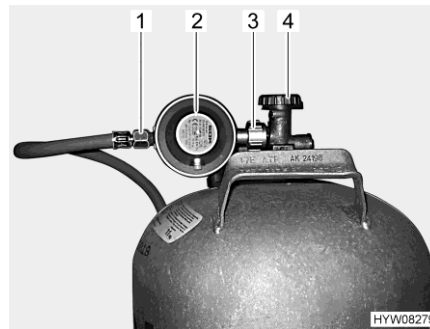

Fig. 138 Gas bottle connection
- Close the regulator tap (Fig. 138,4) on the gas bottle. Pay attention to the direction of the arrow.
- Hold the gas pressure regulator (Fig. 138,2) and open the knurled nut (Fig. 138,3) (normally a left-hand thread).
- Remove the gas pressure regulator and the gas tube (Fig. 138,1) from the gas bottle.
- Position the gas pressure regulator (Fig. 138,2) with gas tube (Fig. 138,1) on the gas bottle and tighten the knurled nut (Fig. 138,3) (normally a left-hand thread). **Do not** tighten too firmly.